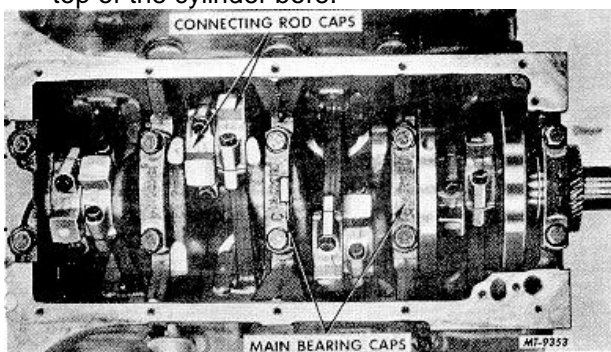

Fig. 40 Positioning Connecting Rods for Removal
49. Rotate the crankshaft to position the journals for removal of the connecting rod assemblies, Fig. 40. NOTE: Before removing the piston assemblies, always remove the ridge from the top of the cylinder bore.